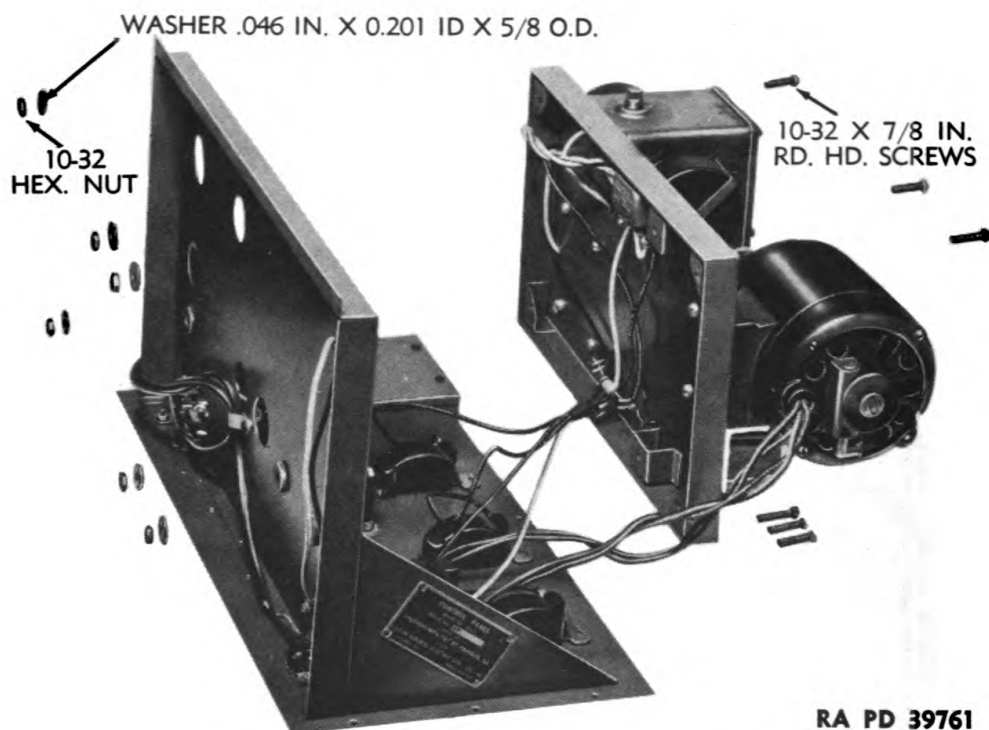
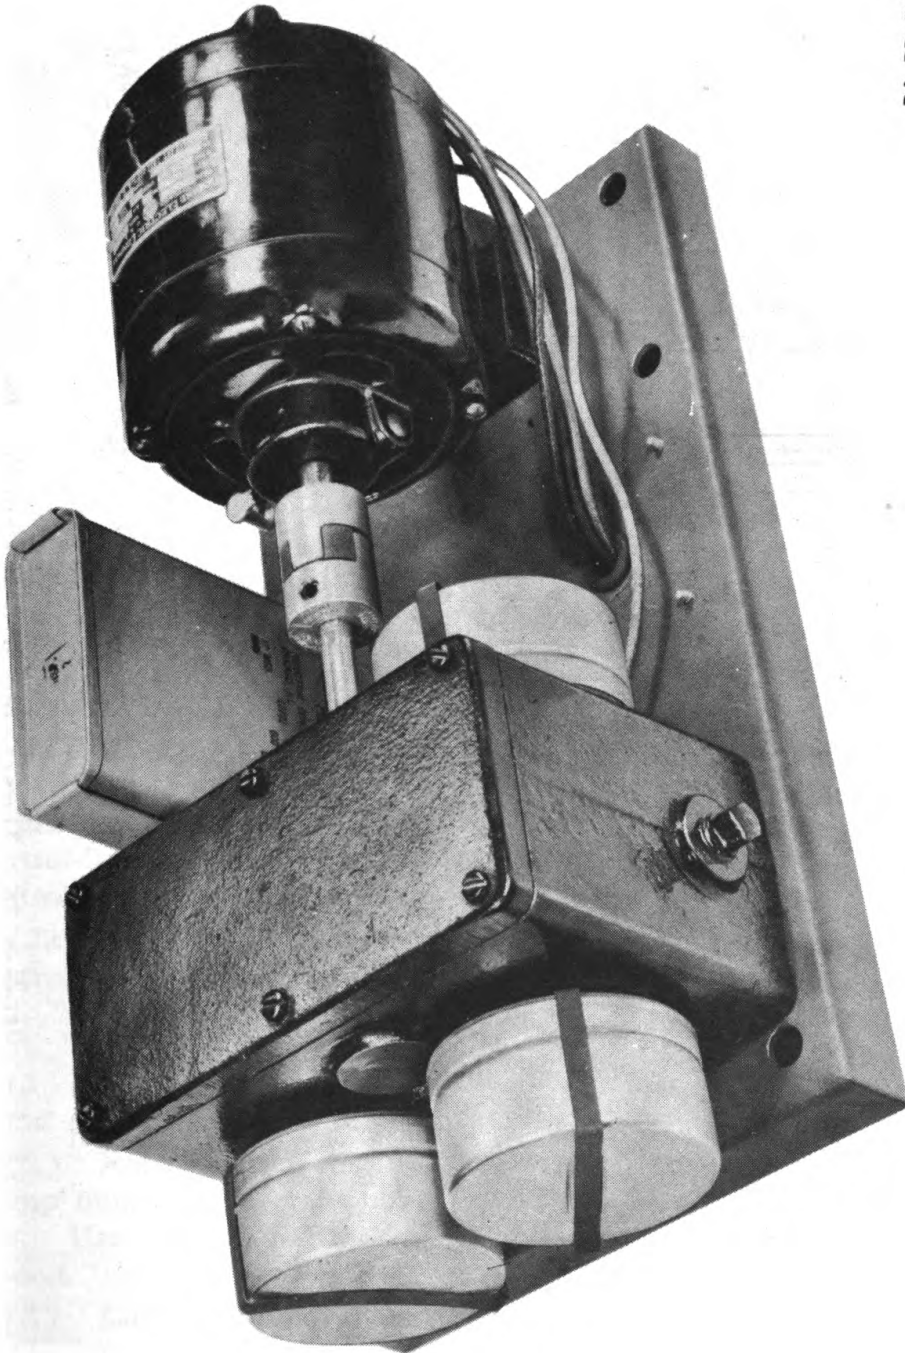

Figure 34 — Control Panel and Timer — Timer Removed
Figure 35 — Timer — Assembled View
(7) The timer (fig. 34) is removed from the control panel assembly by removing the six hexagonal nuts, washers, and screws. After removing the screws, pull the timer free from the control panel assembly and unsolder the connecting leads between the two units. The assembled view of the timer removed from the control panel is shown in figure 35.